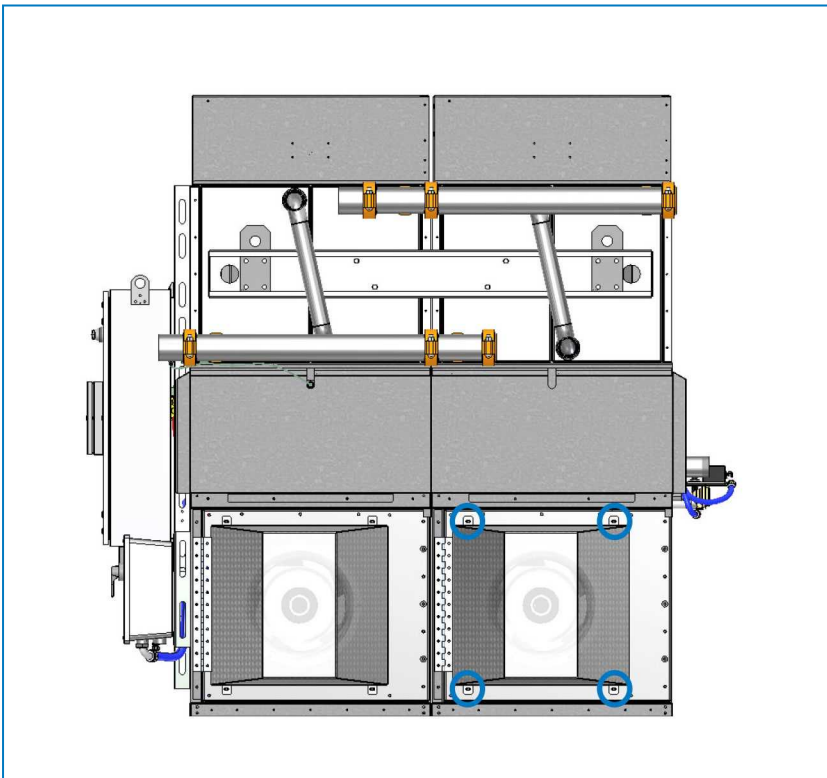

Fig. 24B Fan guard installation step 2
2. Place and align the fan guard mounting hole with the fan panel holes. Secure the fan guard with fasteners from step 1. See figure 24B.